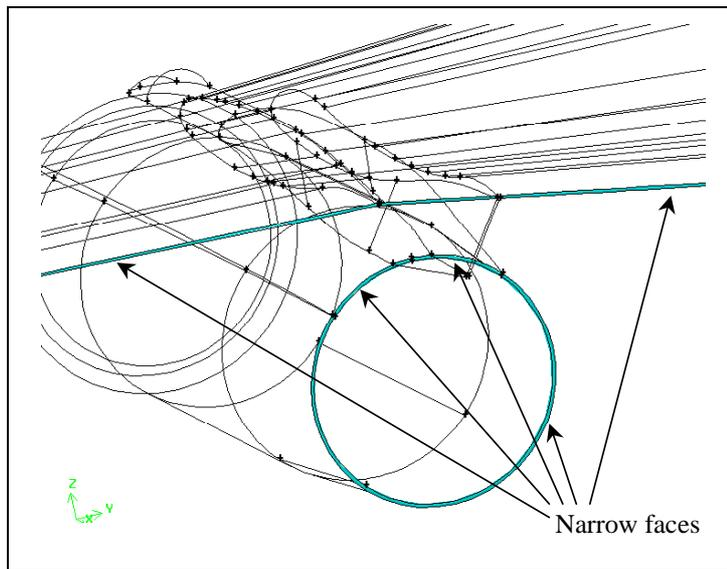

Figure 14-13: Five narrow faces on trailing edges of wing and nacelle
- Select the five narrow faces on the trailing edges of the wing and nacelle (see the shaded faces in Figure 14-13).